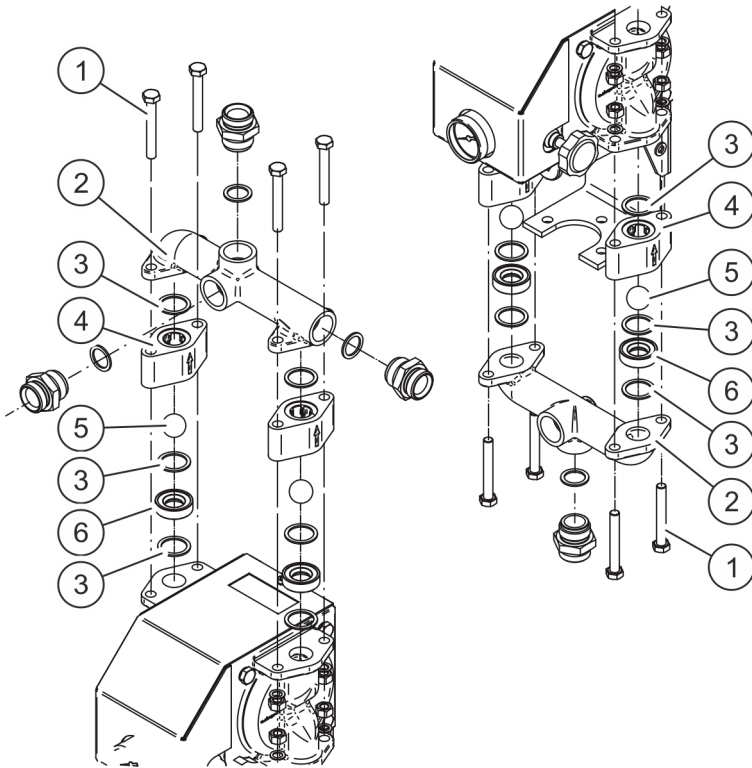

Fig. 9: Valve parts
4. ➤ Unscrew the hexagon screws (Fig. 9/1).
5. ➤ Remove the bridge (Fig. 9/2).
6. ➤ Remove the flat seals (Fig. 9/3), ball cages (Fig. 9/4), valve balls (Fig. 9/5) and the valve seat (Fig. 9/6).
- 10.**  Install all valve parts (Fig. 9/3 to 6) in the sequence shown.
- 11.**  Attach the bridge (Fig. 9/2).
- 12.**  Screw the hexagon screws (Fig. 9/1) tight.